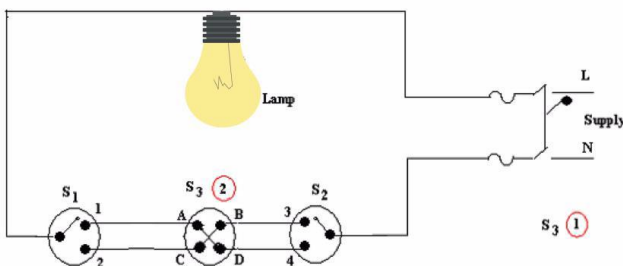

Figure 1 (b) Cross connection
- In case of straight connection, the terminals or points AB and CD are connected as shown in figure 1 (a).